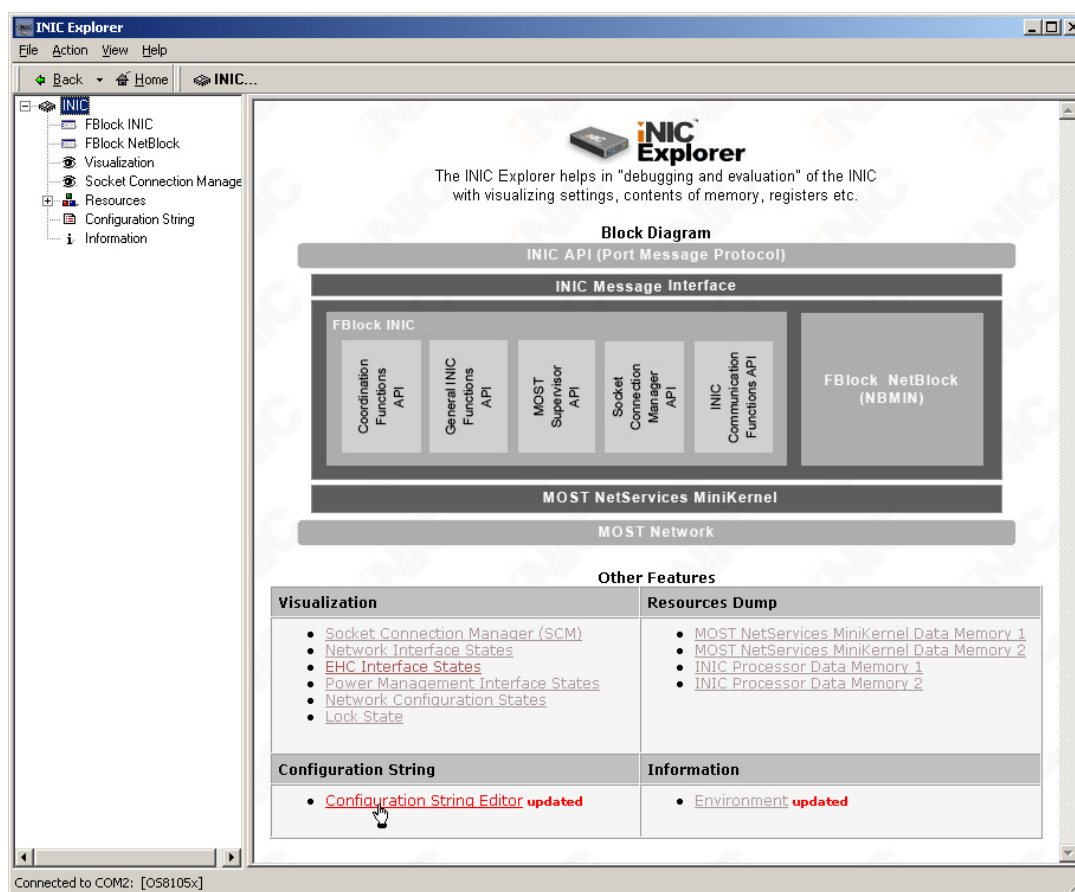

Figure 2-43: Configure the OS81xxx: Select the Configuration String Page
- Press the hyperlink Configuration String Editor in the Context Area as shown in the Figure 2-43. (Alternatively press **INIC** and select Configuration String in the Navigation Tree).